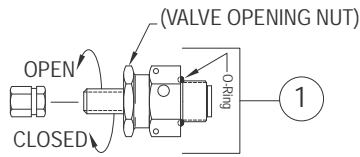

FIGURE 1
1. Point dampener charging valve in a safe direction and slowly open charging valve by turning valve opening nut counterclockwise to verify dampener is not pressurized (FIGURE 1).
3. Close valve at Nitrogen source and thread charging hose connection securely to dampener charging valve. Make sure charging valve is completely open by turning valve opening nut counterclockwise as far as it will go (FIGURE 1).
2. Remove all pressure from dampener before disassembly. Remove charging valve cap and slowly open charging valve by turning valve opening nut counterclockwise using a suitable wrench tool (FIGURE 1).